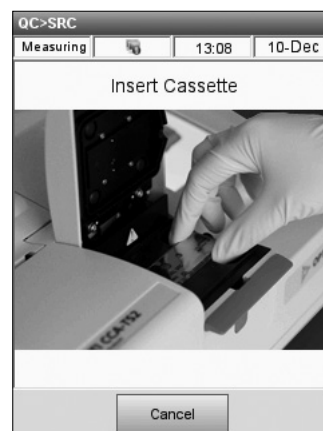

Fig. 4-6 Insert SRC
6. Examine the SRC to ensure it is clean and insert it into the chamber. Press down to properly seat the SRC (Fig. 4-6).